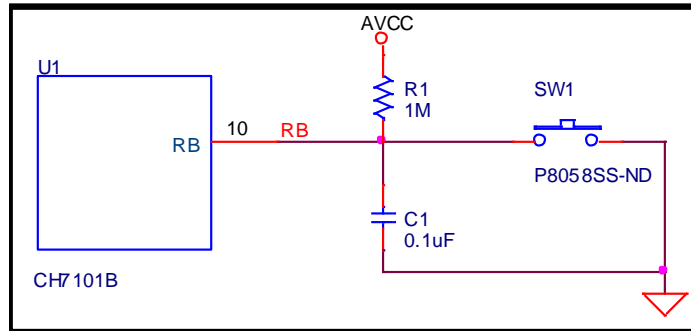

Figure 3: RB pin connection
This pin is the chip reset pin for CH7101B, which is internally pulled-up, places the device in the power on reset condition when this pin is low. A power-reset switch can be placed on the RB pin on the PCB as a hardware reset for CH7101B as shown in **Figure 3**. When the pin is high, the reset function can also be controlled through the serial port.
1. The RB signal can be generated by on board Resistor and Capacitor delay, which can be refer to **Figure 3**. For hardware circuit, please refer to **2.3 RB**.